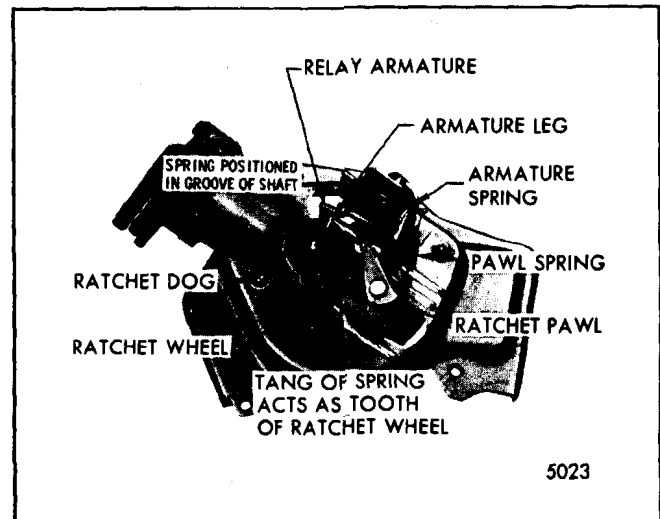

Fig. 2-67-Pump Mechanism
The programming section of the pump mechanism consists of a relay, ratchet pawl, ratchet wheel, and ratchet wheel dog (Fig. 2-67).
1. A leg on the relay armature rides up a ramp located on the outer surface of the ratchet wheel. When the leg reaches the top of the ramp, it moves over the top edge of the ratchet wheel. This action allows the ratchet wheel pawl to re-enter the armature opening preventing further rotation of the ratchet wheel until the next time the relay coil is energized from the washer button. (Refer to Fig. 2-67 for position of armature leg while pump is idling.)